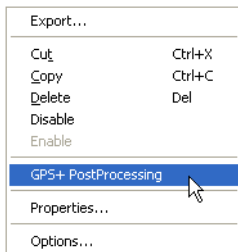

Figure 4-7. Processing Vectors
- To process a vector, right-click anywhere within the vector line in the table and click **GPS+ PostProcessing** on the pop-up menu (Figure 4-7 on page 50).